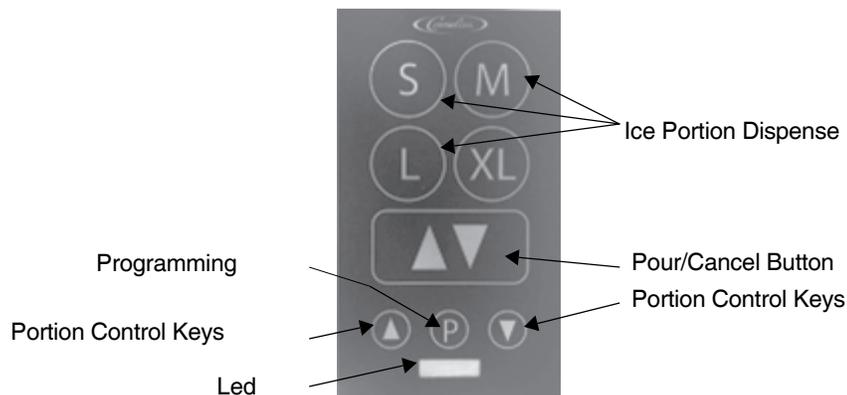

Figure 3.
1. To enter the program mode, press the **program button**  and any of the **desired ice portion dispense** buttons (Figure 3) at the same time and hold for 5 seconds. The Ice Portion Bar will come on  .
3. To exit the program mode, press any of the **desired ice portion dispense** buttons (Figure 3.) or wait 10 seconds and the control will return to the dispense mode.
Place a cup under the ice chute and press any of the **desired ice portion dispense** buttons (Figure 3.). If the ice dispense amount is not the desired amount, repeat the process.